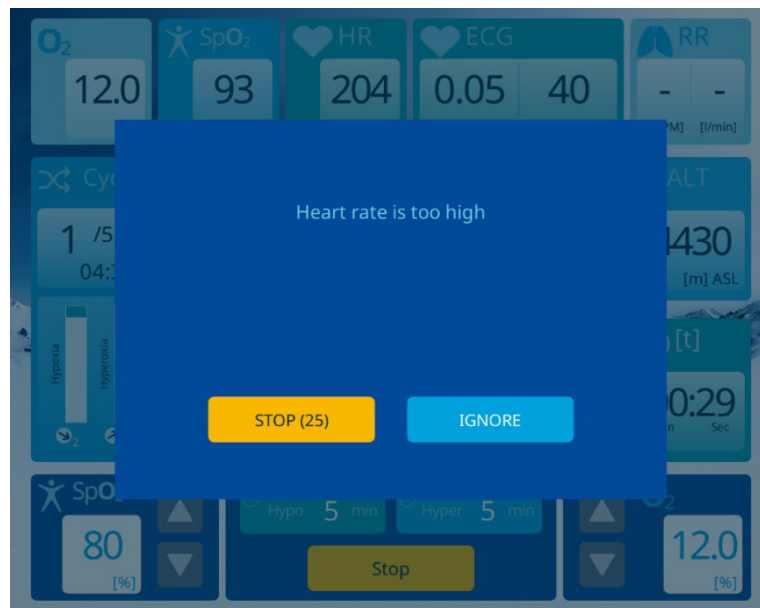

Figure 43 – “Heart rate is too high” message
- “Heart rate is too high: (Figure 43),